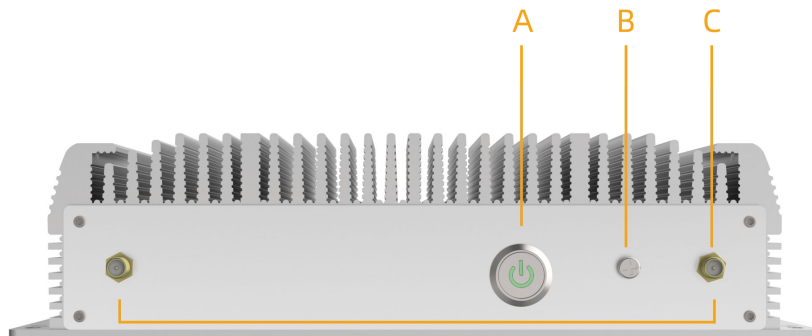
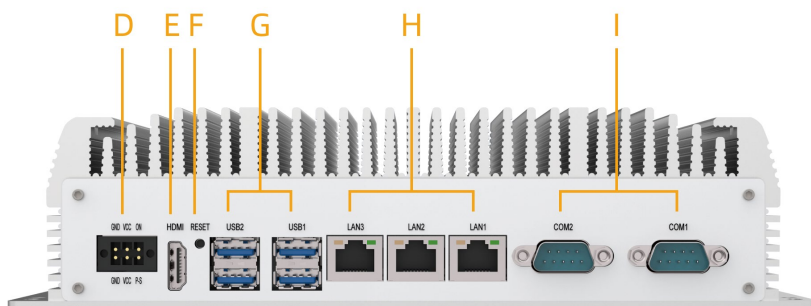

Figure 2-6-5
Figure 2-6-6
② The processor is **Intel® Core™ 10/11/12/13th i3/i5/i7** iBOX22XX Series Fanless Industrial Box PC interface definition is shown in Figure 2-6-5 & Figure2-6-6: